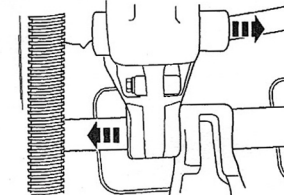

FIGURE 9
- Position rear gear assembly aside in order to gain access to the front gear assembly. (Refer to Figure 9).